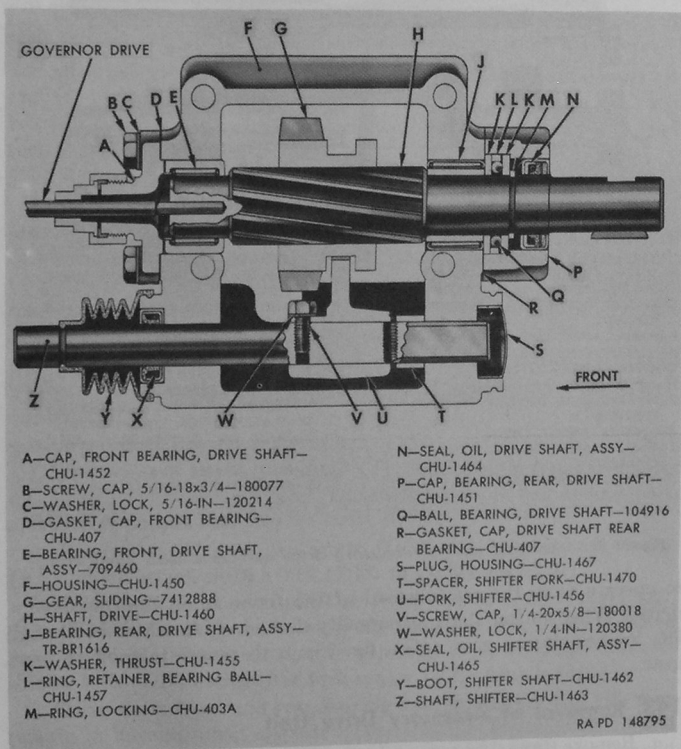

Figure 97. Sectional view of accessory drive unit used with tank truck.
*Note.* Key letters noted in parentheses are in figure 97 unless otherwise indicated.
*a. Tank Truck Accessory Drive.*—The accessory drive unit (fig. 97) used with water and gasoline tank trucks is mounted on power take-off as illustrated in figure 87. The assembly consists of a drive shaft (H) upon which a sliding gear (G) operates on spiral spline on shaft. A shifter fork (U), mounted on shifter shaft (Z), positions sliding gear (G) to engage power take-off reverse gear when shifter shaft (Z) is manually positioned through linkage. The governor drive engages front end of drive shaft to operate limiting speed auxiliary governor.
*Note.* Key letters in text refer to figure 99 unless otherwise indicated. The sectional view (fig. 97) shows the various components in their correct positions.
a. Remove three cross-recess  $\frac{5}{16}$ -18 x  $1\frac{1}{2}$  fillister head screws (Z) and  $\frac{5}{16}$ -inch special lock washers (AA) which attach drive shaft rear bearing cap (X) to housing. Remove bearing cap and drive shaft rear bearing cap gasket (W).
b. Remove  $\frac{5}{16}$ -18 x  $\frac{3}{4}$  cap screws (C) and  $\frac{5}{16}$ -inch lock washers (D) which attach drive shaft front bearing cap (E) to housing (H).
c. With brass drift applied to front end of drive shaft (Q), force drive shaft through housing. Drive shaft front bearing assembly (G) will remain in housing. The inner race (R) of the drive shaft rear bearing assembly (P) will remain on drive shaft. Remove sliding gear (H) from housing.
d. Remove locking ring (V) from drive shaft. Remove two thrust washers (S), bearing ball retainer ring (U), and 21 drive shaft bearing balls (T).
- (1) *Housing.*—Thoroughly inspect housing (H) for cracks and damaged threads. Examine mounting surface for scores or roughness. Small nicks may be honed out. Check clearance of shifter shaft (B) in passages in housing. Replace shifter shaft or housing if clearance is excessive (par. 345).
- (2) *Drive shaft front and rear bearings.*—Examine needle bearings in drive shaft front bearing assembly (G) and drive shaft rear bearing assembly (P). If needle bearings are checked, bent, or otherwise damaged, replace with new parts (par. 147). The inner race (R) which is a part of drive shaft rear bearing assembly is pressed on drive shaft (Q). Examine outer surface of race for roughness or scores. If race is damaged, the rear bearing assembly (with inner race) must be replaced (par. 147).
- (3) *Oil seals.*—Examine shifter shaft oil seal assembly (JJ) for damage or looseness in housing. Examine drive shaft oil seal assembly (Y) in drive shaft rear bearing cap (X) for similar damage. Replace if necessary as described in paragraph 147.
- (4) *Shifter shaft.*—Inspect shifter shaft (B) for damage. Check outside diameter and clearance as described in (1) above. Refer to paragraph 345 for dimensions. Inspect shifter shaft boot (A) for stretched or damaged condition. The boot must fit tightly in shifter shaft groove and groove on housing (refer to fig. 97). Replace boot if damaged.
- (5) *Sliding gear.*—Check inner splines of sliding gear (HH) for roughness or damage. Check teeth for chipped, rough, or damaged condition. Small nicks or burrs on teeth may be honed out. Check condition of shifter fork groove on sliding gear. Check clearance of shifter fork pads to groove ((6) below). If groove in gear is excessively worn (par. 345), replace gear.
- (6) *Shifter fork.*—Inspect shifter fork (DD) for damaged or sprung fork legs and worn fork pads. Check clearance of fork pads in sliding gear groove ((5) above). If clearance is excessive (par. 345), check width of pads for excessive wear (par. 345).